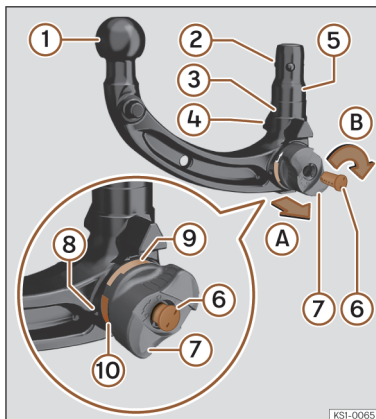

Fig. 175 Overview: removable tow hitch.
- ③ Locking (ball) mechanism.
- ④ Centring guides.
- ⑤ Shaft.
- ⑥ Key.
- ⑦ Lock cover.
- ⑧ Thumbwheel.
- ⑨ Green mark on the tow hitch
- ⑩ Red mark on the thumbwheel
3. Open the lock cover >>> **Fig. 175 ⑦** and insert the key **⑥** into the lock.
4. Turn the key **⑥** counterclockwise until the arrow on the key points towards the lock open symbol on the thumbwheel **⑧**.
5. Hold the tow hitch with one hand. With the other, pull out the thumbwheel **⑧** in direction **A**.
6. Turn the extracted thumbwheel **⑧** in direction **B** as far as the stop.
8. Release the thumbwheel **⑧**.